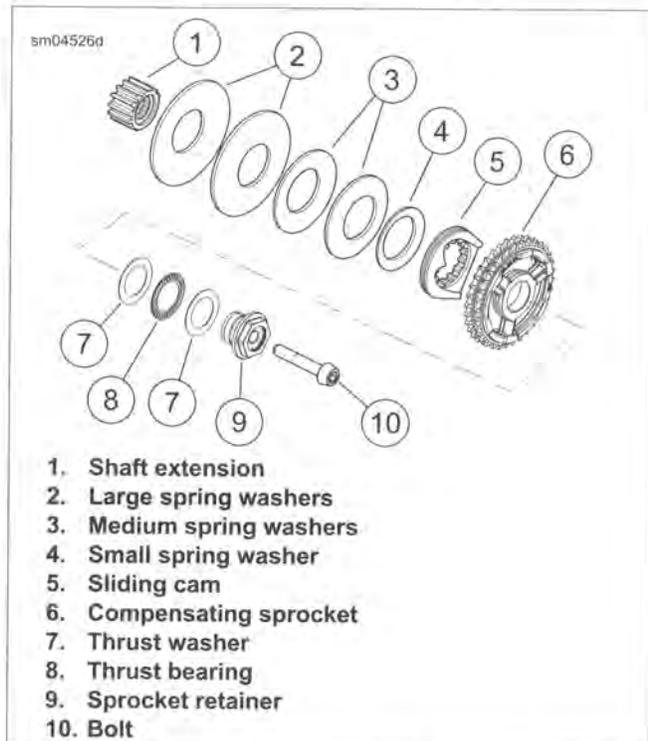
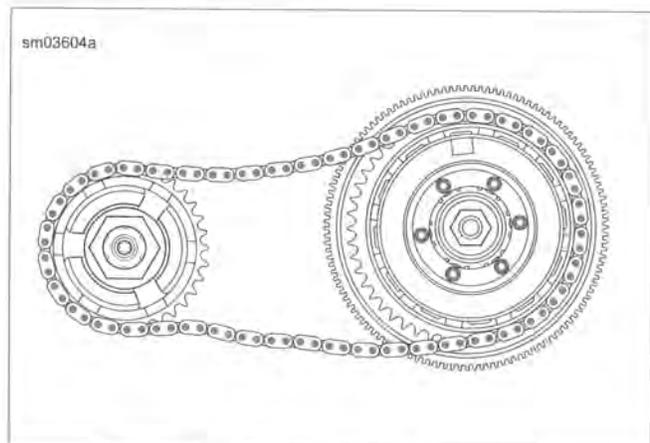

Figure 5-9. Engine Compensating Sprocket Assembly
Figure 5-10. Remove Drive Components
11. Rotate compensating sprocket bolt (1) counterclockwise to remove.
12. See Figure 5-9. Remove bolt (10), retainer (9), thrust bearing (8) and thrust washers (7).
14. Clean sprocket retainer (9). Verify that oil holes are clear.
15. See Figure 5-10. Remove clutch assembly, primary chain and compensating sprocket assembly as a single assembly.
1. See Figure 5-9. Apply a thin layer of primary chaincase oil to the inner diameter of the compensating sprocket (6) and the splines of shaft extension (1). Assemble shaft extension, large spring washers (2) and medium spring washers (3).